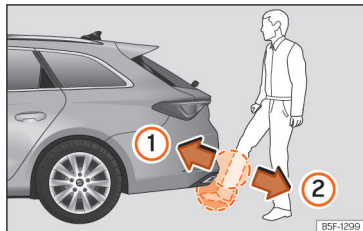

Fig. 81 Rear lid with sensor-controlled opening (Easy Open).
- With a brisk movement, bring your foot and lower leg as close as you can to the bumper. The lower part of the leg needs to be close to the upper sensor area and your foot to the lower sensor area **>>> Fig. 81 ①**.
- Quickly remove your foot and lower leg from the sensor areas **>>> Fig. 81 ②**. The rear lid will open automatically.